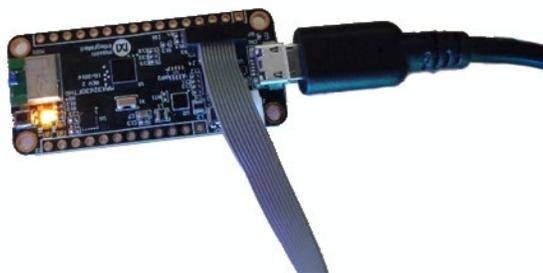

Figure 8. MAX32630FTHR host blinking LED.
- 8. Verify that the LED on the MAX32630FTHR is blinking, as shown in Figure 8.